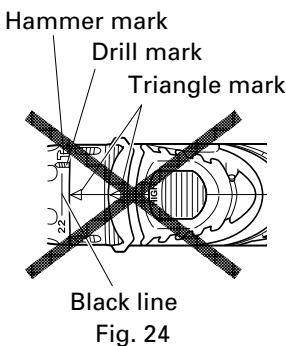

Fig. 24
- (1) When using this unit as a screwdriver, line up the one of the numbers "1, 4, 7 ... 22" on the cap, or the black dot, with the triangle mark on the outer body.
- (2) When using this unit as a drill, line up the cap drill mark "☞" with the triangle mark on the outer body.
- (3) When using this unit as a hammer drill, align the cap hammer mark "⚡" with the triangle mark on the outer body.
- **Do not use with the cap numeral at "22" and the black line at the middle of the drill mark. Doing so may cause damage. (See Fig. 24)**